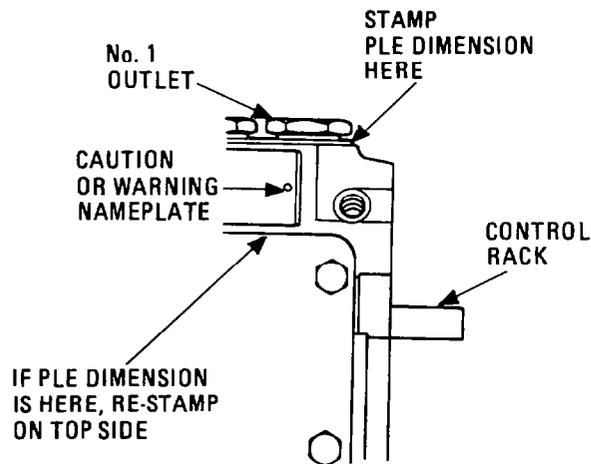

Fig. 121 — "PLE" Stamping
5. Compare the figures obtained for the PLE dimension with those stamped on the injection pump as shown in fig. 121. Restamp if figures differ.